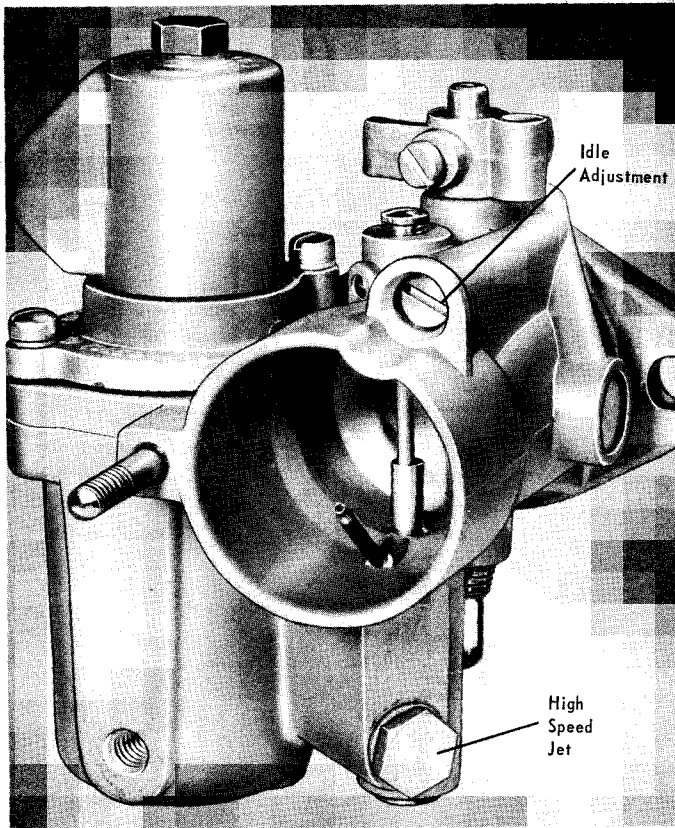

Figure 7. Idle Adjustment
2. Start with all idle needles one turn open and adjust for maximum RPM with magneto retarded to give about 600-700 RPM. (Figure 7)
4. With engine running at idling speed while in forward gear, turn low speed mixture adjusting needle counterclockwise until affected cylinders start to "load up" or fire unevenly due to overrich mixture. (Figure 7)